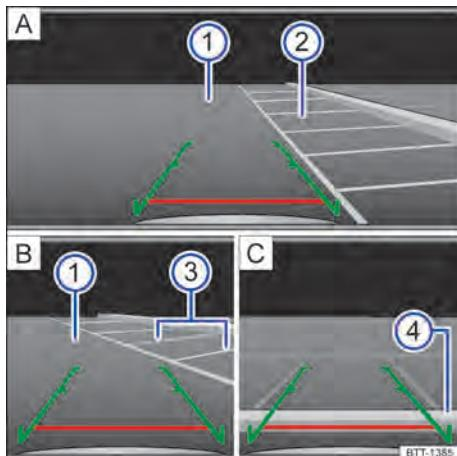

Fig. 91 Display of the radio or navigation system: enter the parking spot with the rear view camera (schematic display).
Key for→ Fig. 91:
- Position the vehicle in front of the parking spot → Fig. 91  .